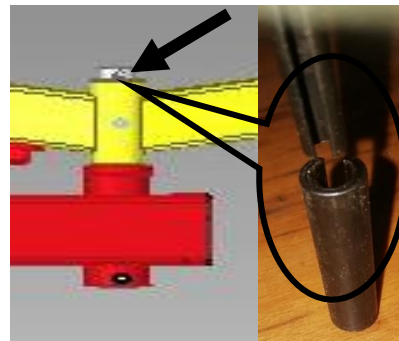

Figure 6
- Install one spacer disc 51-35.5-4 and secure it initially with a 10x65 dowel pin, with the slit facing opposite to the direction of travel. Into this dowel pin, knock in a 6x65 dowel pin, with the slit facing in the direction of travel (Figure 6).